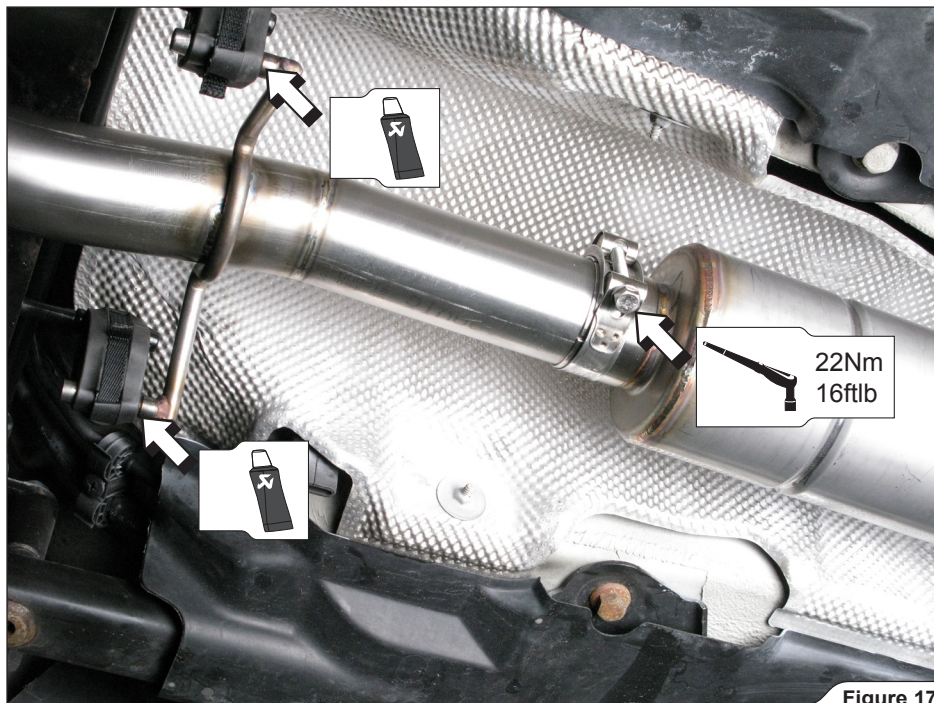

Figure 17
6. **For Evolution:** slide the resonator all the way onto the link pipe (**Figure 17**).